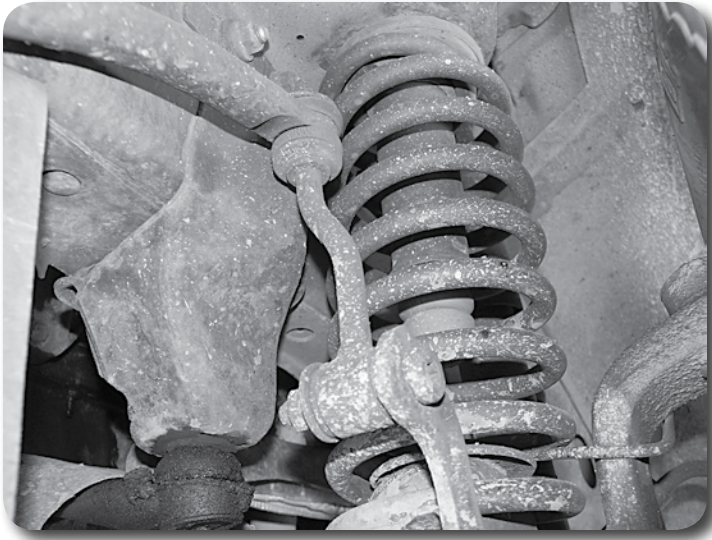

Figure 2
7. Remove the upper mounting nut from the sway bar links (Figure 2). Swing the sway bar up off of the links. Save all hardware/bushings.